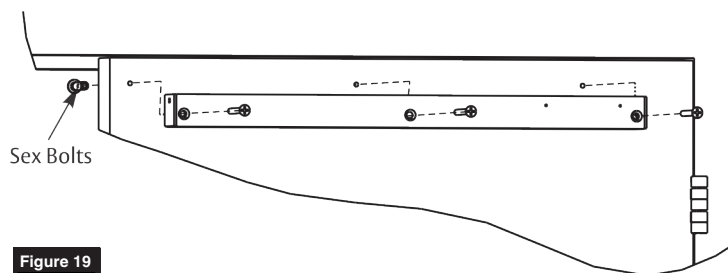

Figure 19
1. Using previously prepared holes in doors, install three (3) 1/4-20 x 1-5/8" screws through each track and into sex bolts. (Figure 19)